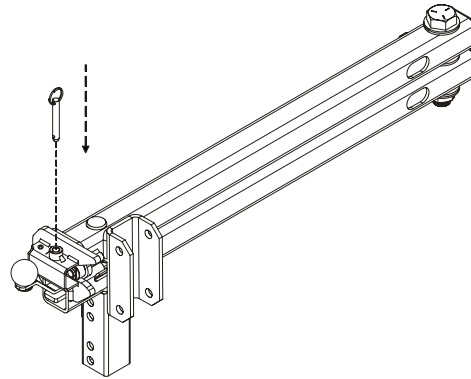

Figure 3-14
2. Install the safety pin. Be sure that the safety pin is fully inserted to the ring. *See Figures 3-14 and 3-15.*
Safety pin must be installed before transit to avoid damage and injury. *See Figure 3-14.*